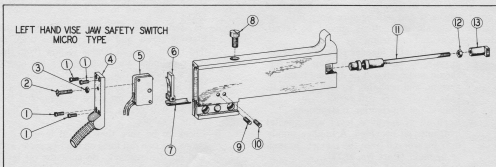
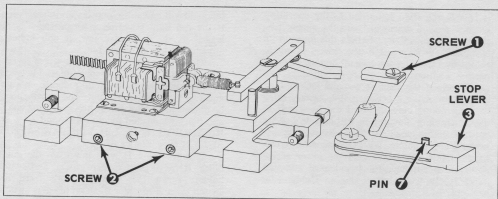

FIGURE 6
FIGURE 7
THE ELECTRO PUMP STOP SAFETY ADJUSTMENT OF THE L.H. VISE JAW SAFETY SWITCH (See Figure 6)
REPLACEMENT OF L.H. VISE JAW SAFETY SWITCH (See Figure 6)
Remove screw (1) from right hand end of operating lever. (Figure 7) Loosen two Allen screws (2) on the bracket and unit can be lifted from machine for cleaning or servicing.
To adjust—press the switch operating rod (13, Figure 6) in the left hand vise jaw, which closes the solenoid. Then adjust by sliding the entire solenoid and bracket unit back and forth until the stop lever (3, Figure 7) clears the stop block on the pot pump lever. Tighten the two Allen screws and recheck clearance. While this adjustment is not critical, care should be exercised to prevent excessive motion of the stop lever, so it does not strike the stop pin (7) on the pump stop bracket. The solenoid must close completely, or a hum and damage will occur.
The Electro-Pump Stop consists of the left hand vise jaw, containing a microswitch and its adjusting mechanism, and a solenoid with its mechanism for the operation of the pot pump stop lever. (See Figures 6, 7, and 8)